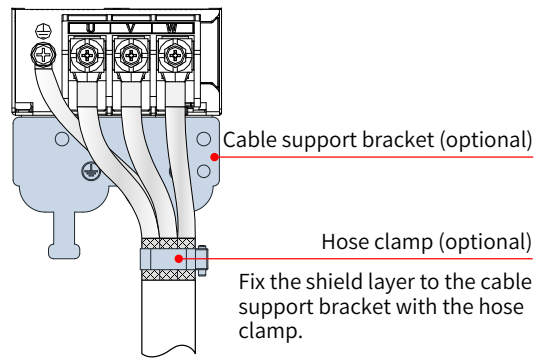

Figure 3-6 Cable support bracket installation
- It is recommended to use shielded cables as the motor output cables. The shield layer can be fixed by the cable support bracket (optional), as shown in "Figure 3-6 Cable support bracket installation". Alternatively, you can fix the shield layer on the cable support bracket with 360 degree, and crimp the drain wire of shield layer to the PE terminal, as shown in "Figure 3-7 Drain wire of motor cable shield layer".